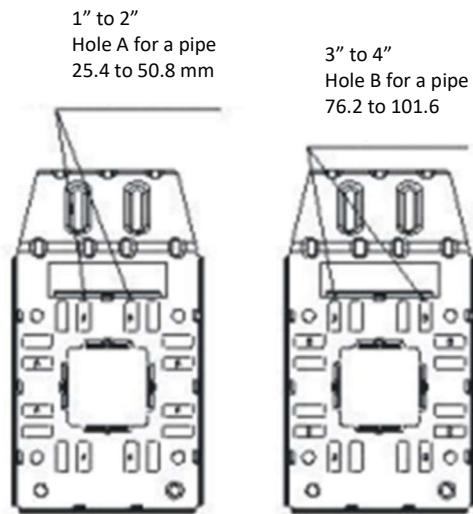

Figure 3. Holes For Steel Tie Tightening
2. Attach bracket (2) to the pole using steel ties (4a) & (4b) through the hole of the bracket. Use hole A for steel ties tightening on pole diameters ranging from 1" – 2" (25.4 – 50.8 mm). For a pole diameter ranging from 3" – 4" (76.2 – 101.6 mm), use hole B for steel tie tightening (refer to figure 3).